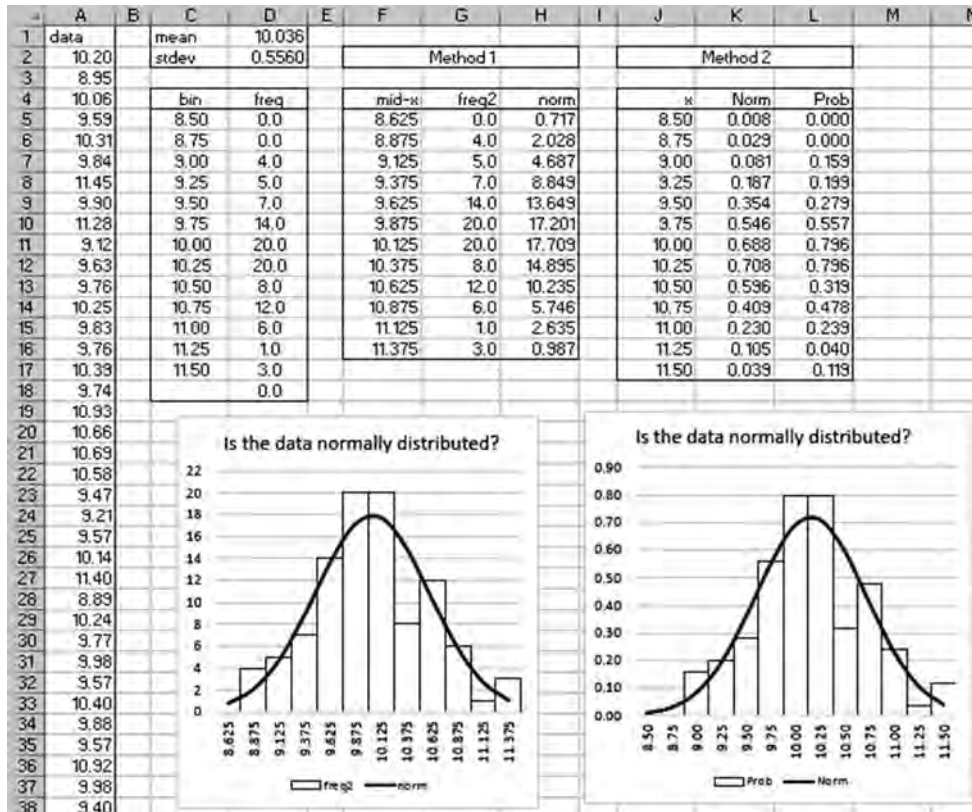

FIGURE 16.4
- a. On Sheet2 of Chap16.xlsx, enter the text values shown in Figure 16.4. In A2, enter `=ROUND(Sheet1!A2,2)`. The pointing method works well here. Copy the formula down to row 101. Name the range A2:A101 as **data**.
The data in column A of Figure 16.4 might be reported as *the value of  $x$  was found to be  $10.036 \pm 0.556$  ( $n = 100$ )*. In many cases, it would be appropriate to use only two decimal places since that was the precision of the raw data.